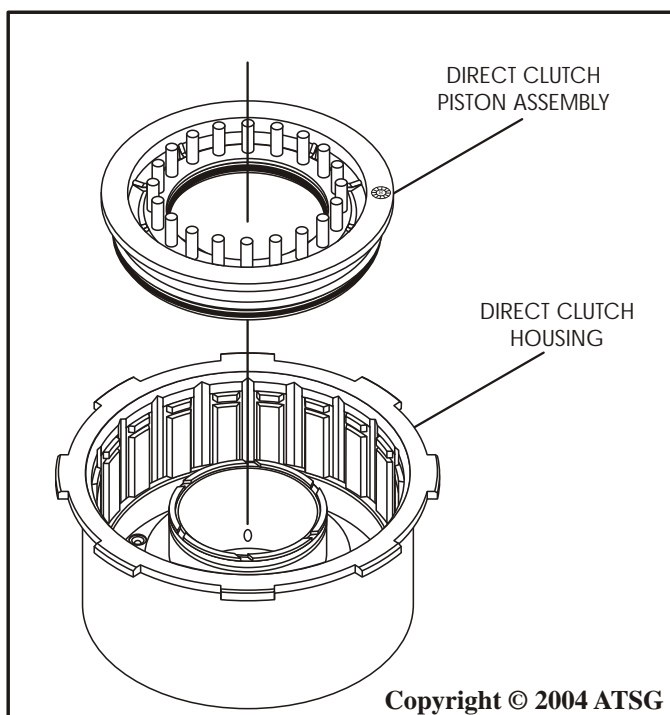

Figure 80
9. Install the completed direct clutch piston into the direct clutch housing with twisting motion, as shown in Figure 80.